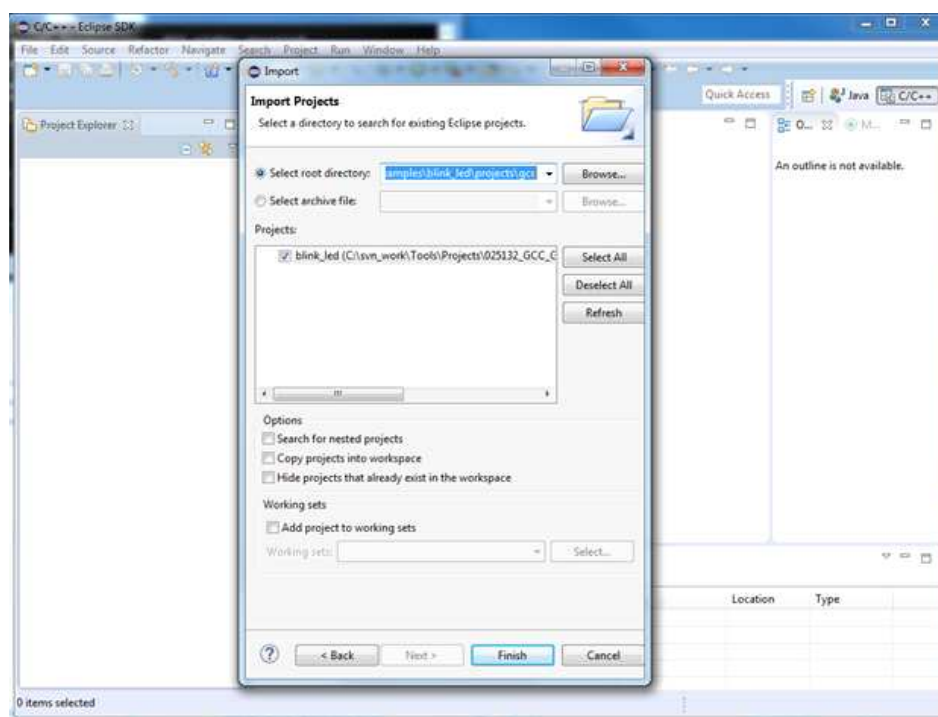

Figure 11. Import Example Project Into IDE
4. Choose Select root directory, click Browse and navigate to the directory of the example project. Select the project. Make sure that the option 'Copy projects into workspace' is not checked (see Figure 11). Then click Finish.